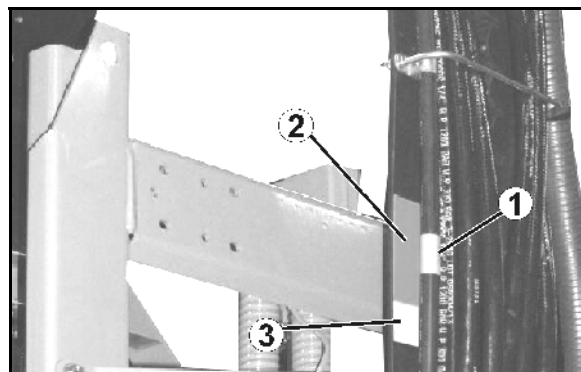

Fig. 68
Marking (1) in the red area (Fig. 68/2)